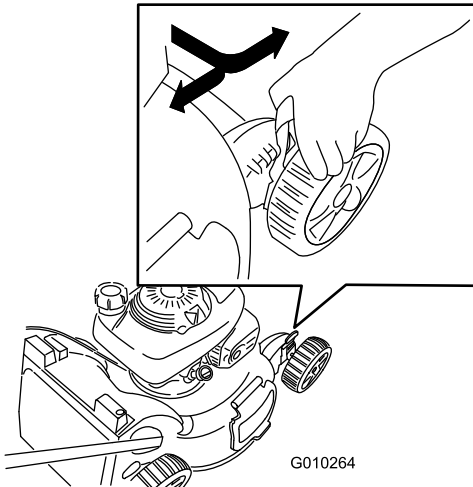

Figure 15
**Note:** To raise the machine, move all 4 cutting height levers forward; to lower the machine, move them all rearward (Figure 15).